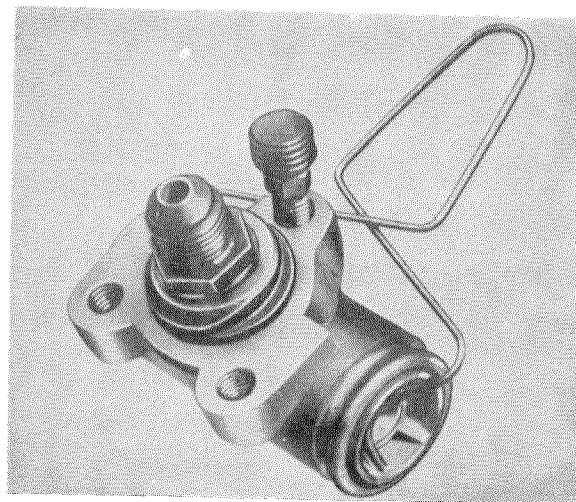

Fig. 42 — 7/3
15. Insert a new cup (4) and a piston (3) in the bore of the brake wheel cylinder (see Fig. 42 — 7/2). Press on a rubber boot (2) at this side.
16. Now install a cup expander (5) and the stop spring (6) from the other side into the brake wheel cylinder in such a way that the cup expander rests snugly against the cup.
17. Install the second cup expander (5), the second cup (4), and the second piston (3). Then press the second rubber boot onto the brake wheel cylinder.
**Note:** In order to prevent the pistons and the cups from falling out after reassembly, it is advisable to put a Piston Clamp 00 589 02 37 on the brake wheel cylinder (Fig. 42 — 7/3).